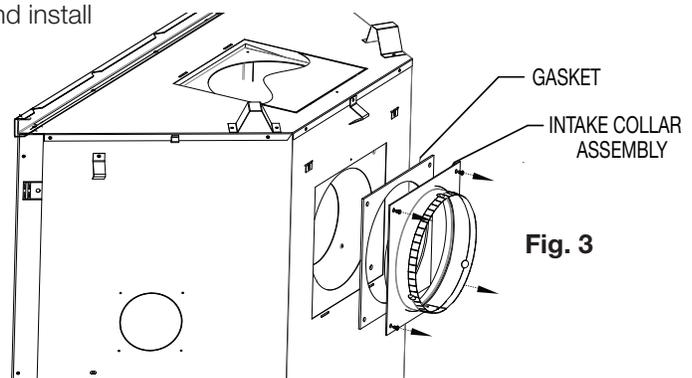

Fig. 3
- Install the 7" (177mm) collar assembly, complete with gasket, onto the rear panel around the 4" (102mm) collar with the screws provided (**Fig. 3**).